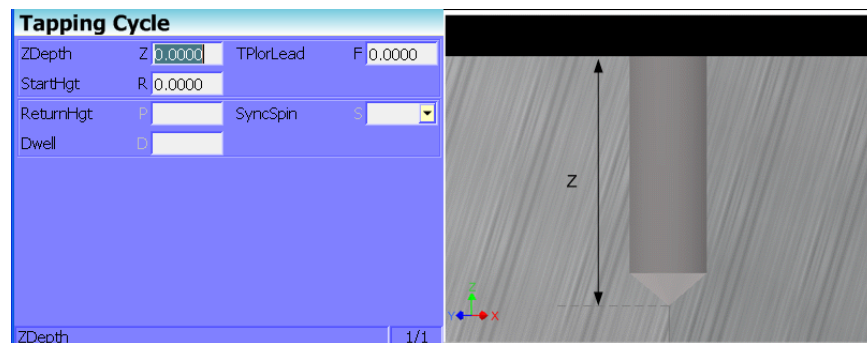

Figure 4-6, Tapping Cycle Graphic Menu
2. Highlight **Tapping** and press **ENTER** to display the Tapping Cycle Graphic Menu. Refer to **Figure 4-6**.